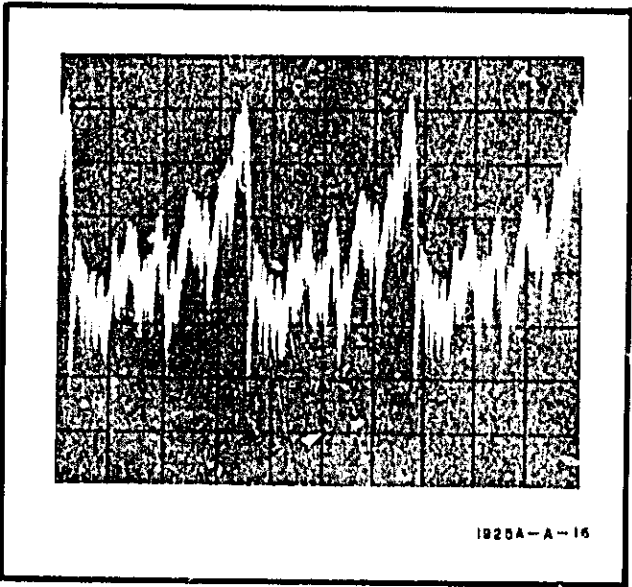

Figure 5-7. PRN Waveform
f. Observe the waveform on the real-time oscilloscope CRT. It should be comparable to the waveform shown in Figure 5-7.